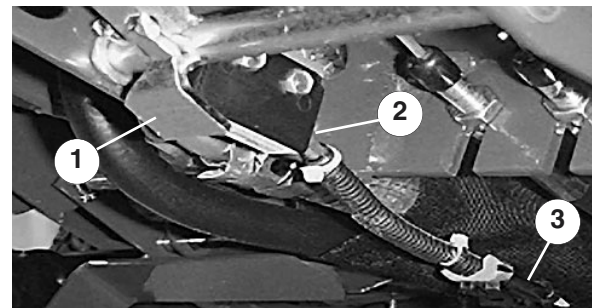

Figure 42
1. The gap between the parking brake shaft pivot paddle and the bottom of the interlock switch (Fig. 42) should be approximately  $\frac{1}{16}$ " (the paddle must not contact switch).